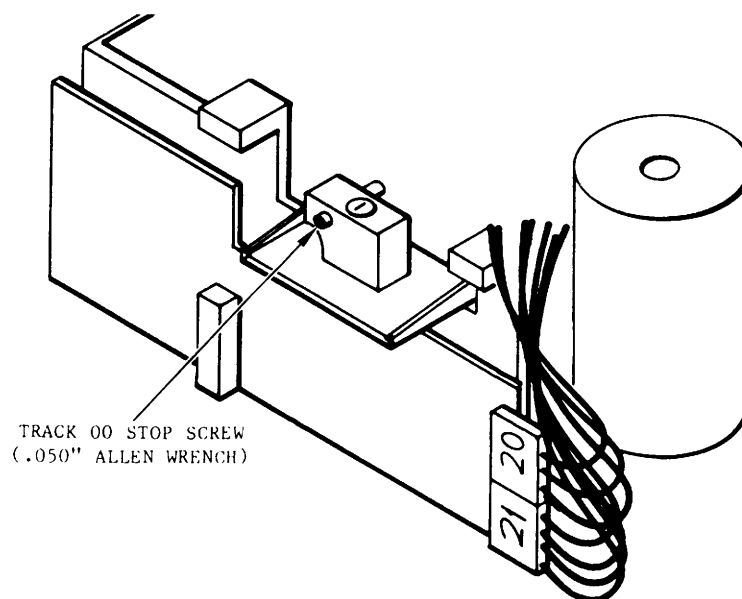

Figure 5-6. Track 00 End-Stop Screw Location
- 2) Turn the track 00 stop screw (Figure 5-6) two turns counterclockwise using an .050" Allen wrench.